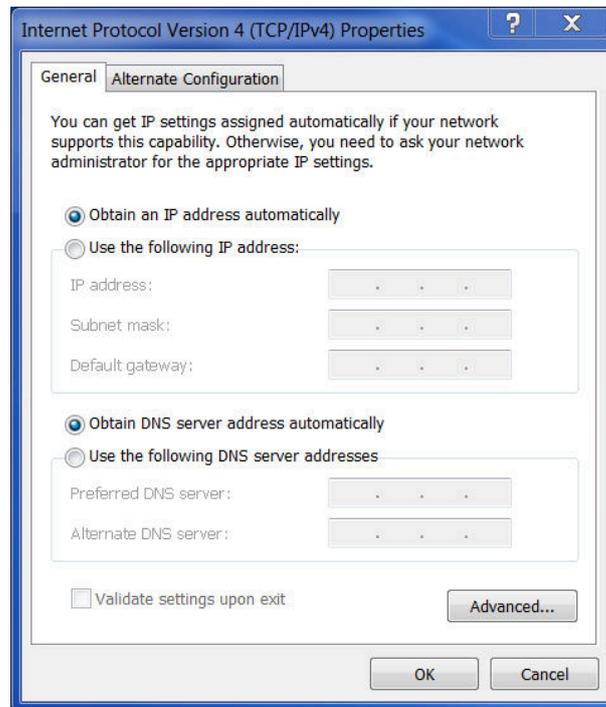

Figure 14: Internet Protocol Version 4 (TCP/IPv4) Properties
5. The “Internet Protocol Version 4 (TCP/IPv4) Properties” window displays the current configuration. Please take a screenshot or note the information contained in this window. You will need this information to re-establish the Internet connection at the end of the connection with the *A10-RTK* sensor (see Fig. 14).
- To restore your computer’s Internet connection, repeat steps 1 to 4 and change the information in the “Internet Protocol Version 4 (TCP/IPv4) Properties” window back to how it was in step 5 (see Figure 14).